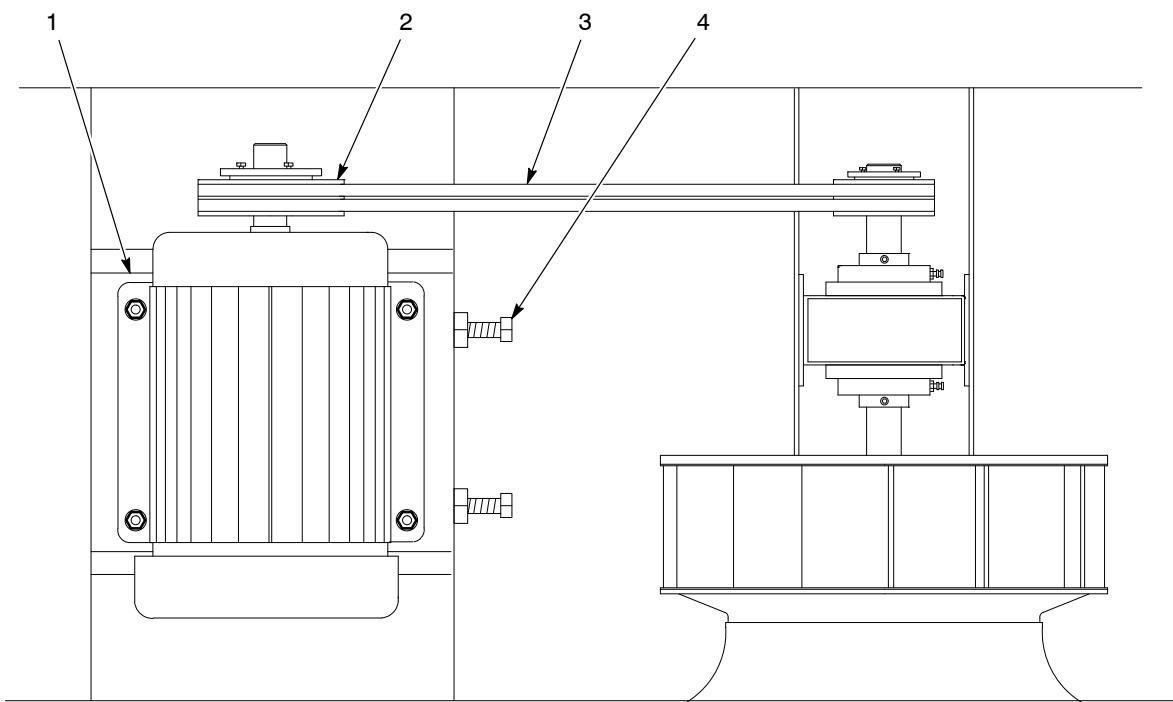

Figure 6-9 V-Belt Replacement (Excel 2001 Shown)
2. See Figure 6-9. Unscrew the tensioning bolts (4) on the side of the motor mount (1). This will allow you to slide the motor and mount toward the fan and loosen the V-belts (3).
3. Rotate the motor or fan by hand and roll the V-belts off the sheaves (2).